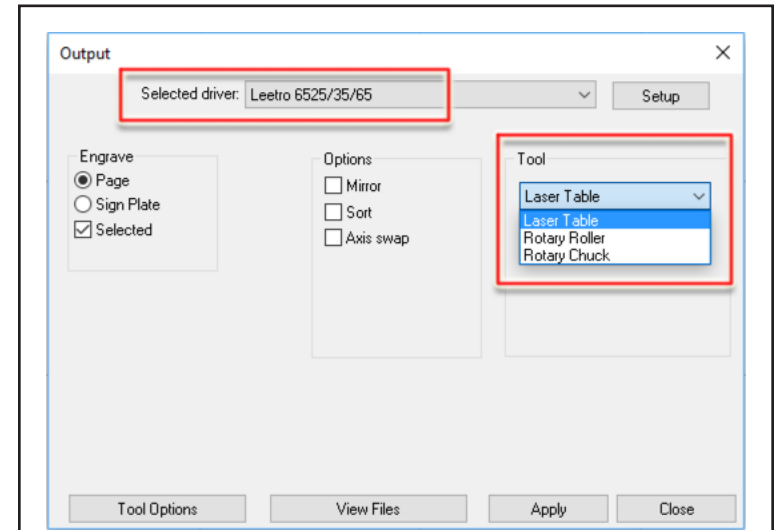

Fig. 29 - Use the **Output** dialog to set default parameters for your machine.
4. From the **Engrave** menu, choose **Engraving Defaults**. The **Output** dialog will open (Fig. 29).